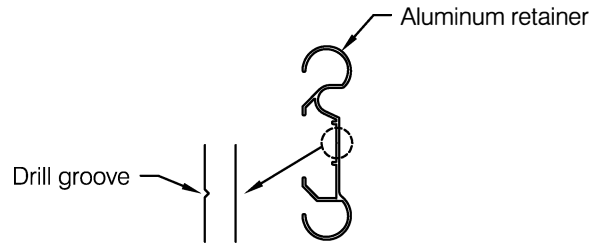

fig 2
- Note:** Use groove in retainer to locate centerline for drilling, see **fig 2**